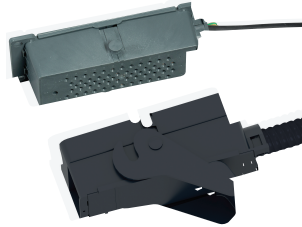

Figure 69
1. Remove the LV connector from the fixation pin on the EvoPacT HVX VCB. Refer to Figure 69.
2. Insert the LV connector into the socket of interchangeability interlock inside the cubicle above the EvoPacT HVX VCB (2).